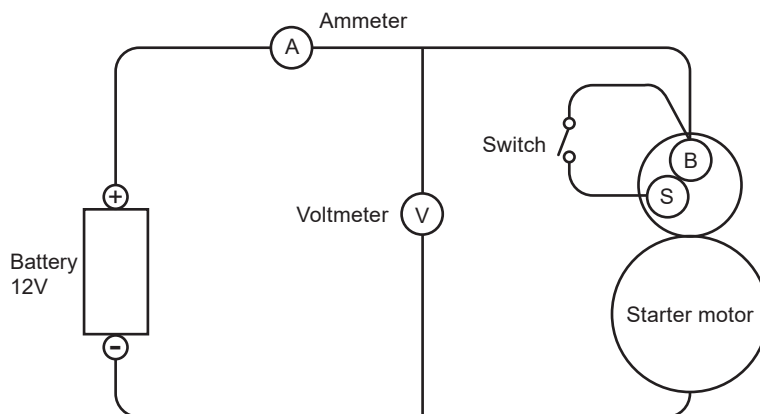

Fig.5
(1) Arrange the test circuit with the voltmeter and ammeter as shown in Fig.5.